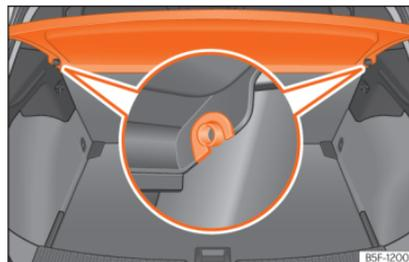

Fig. 122 In the luggage compartment: removing and fitting the shelf.
- Remove the rear shelf from the side supports »» Fig. 122 by pulling it upwards and then take it out.
- Insert the cover horizontally so that the “recess” fits onto the axis of the supports »» Fig. 122 and press down until it engages.